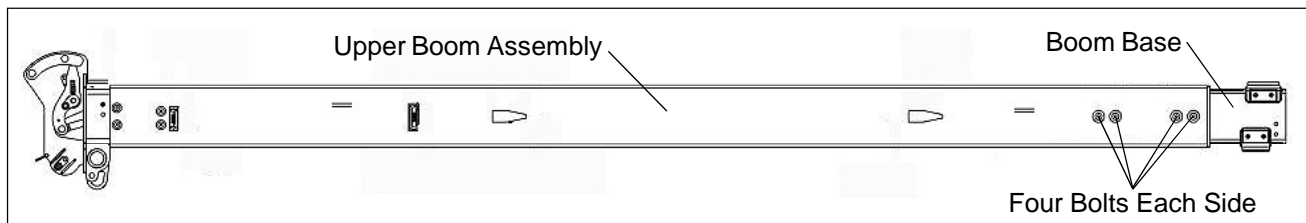

Figure 1 — Boom Base End Bolt Location
4. Set the torque wrench to 55 ft-lb and check each of the eight bolts at the base end of the upper boom (refer to Figure 1).